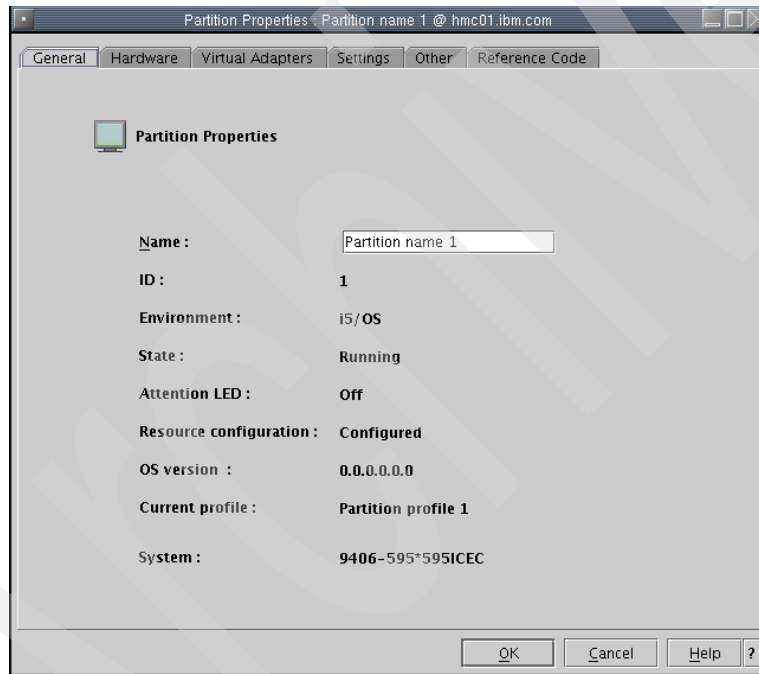

Figure 6-17 Partition properties dialog
2. From the LPAR function menu, select **Properties**. You will see a dialog similar to the one in Figure 6-17.